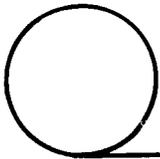

Fig. 3—Magnetic Tape Symbol
2.03 *The magnetic tape symbol* (Fig. 3) represents an input/output function in which the medium is magnetic tape.